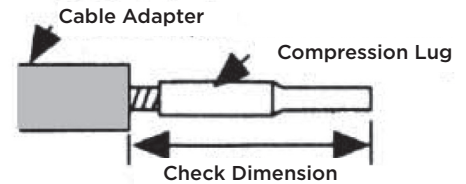

Fig. 7 - Check & Crimp
- a. Verify check dimension is less than 6 1/2" prior to crimping. (See figure 7) Refer to crimp chart packed with connector.